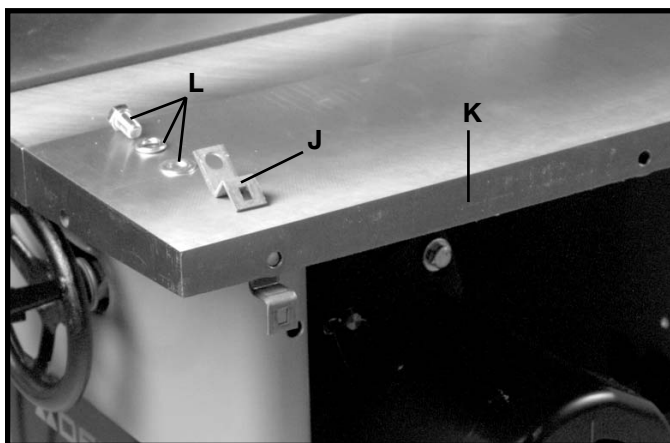
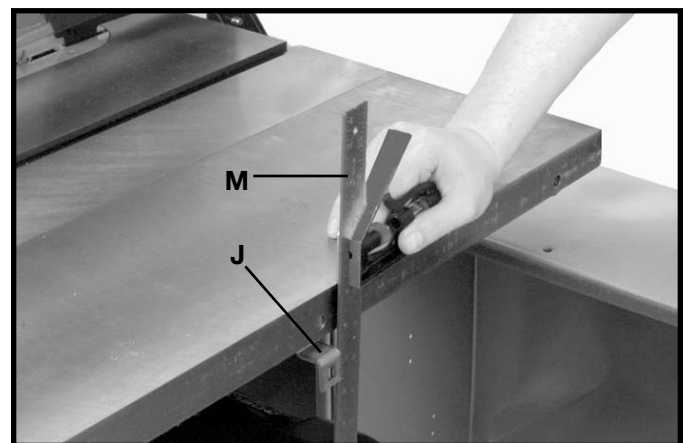

Fig. 63
Fig. 64
8. Assemble Z-brackets (J) Fig. 63, to the inside edge on right side of extension wing (K) as shown, using three 7/16-20x 3/4 hex head screws, lockwashers, and flat washers (L). Place lockwasher, washer, z-bracket onto screw and thread screw from the inside of the extension wing and tighten securely. **NOTE:** Using a square (M) Fig. 64, make certain that Z-brackets (J) are perpendicular to the saw table as shown. Also, lift upward on Z-brackets while tightening screws to eliminate any play.